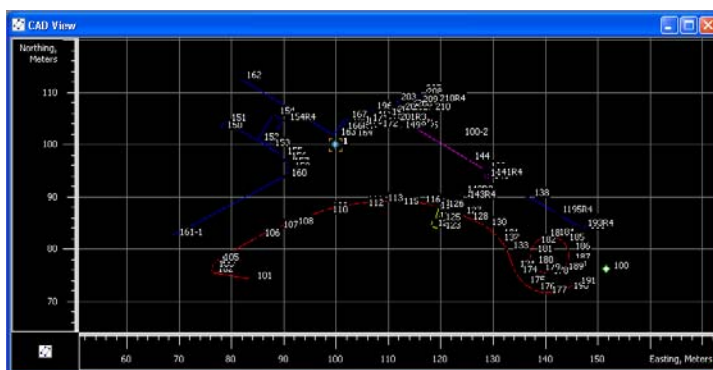

Figure 4-48. CAD View with Linework
2. The CAD view is a graphical view (Figure 4-48 on page 4-38) of linework roads and surfaces with the associated points. Unless filtered, the following information displays: